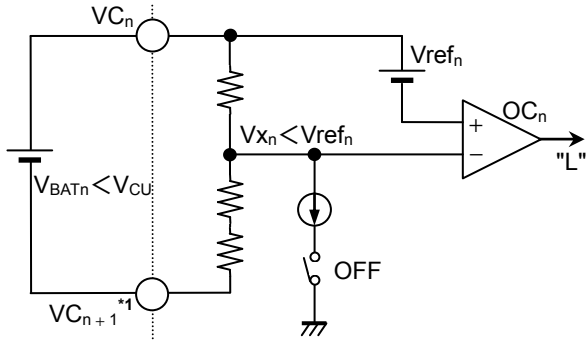
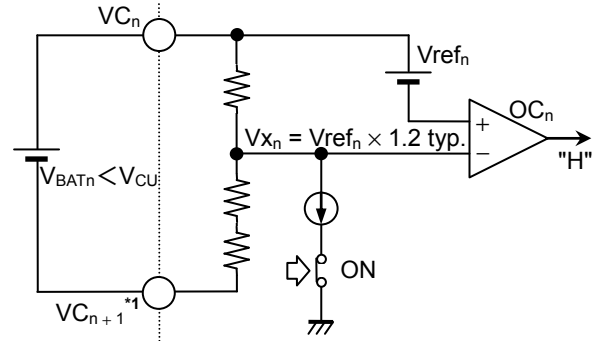

Figure 12 When self-test is not performed (RSTB = "L", CLK = "L")
Figure 13 When self-test is performed (RSTB = "H", CLK = "H_{2n-1}")
- 3rd to 12th clocks : Performs overcharge comparator n (OCn) diagnostics at the 2n – 1th clock for the clock signal input to the CLK pin (Refer to **Figure 12** and **Figure 13**)